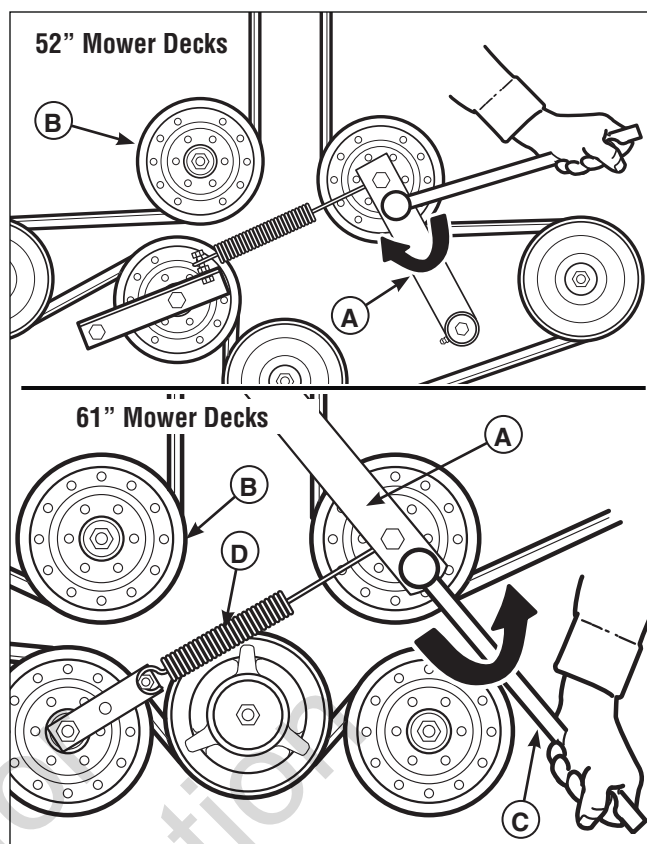
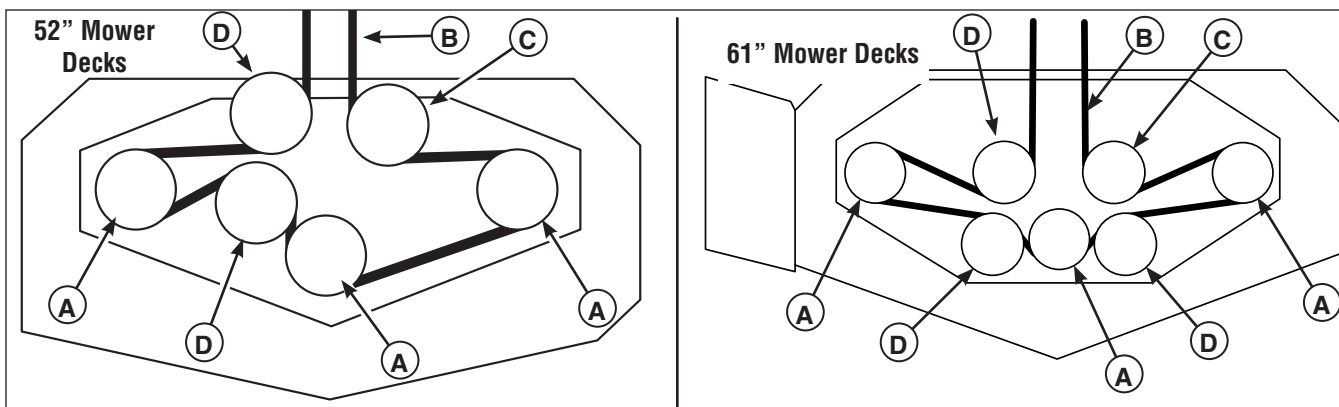

Figure 50. Mower PTO Belt
Figure 51. Mower PTO Belt Routing
3. Using a 1/2" breaker bar, place the square end in the square hole located in the end of the idler arm (A, Figure 50).
4. Slide the drive belt over the edge of the stationary idler pulley (B). Carefully release the tension on the breaker bar.
5. Remove the old belt and replace with a new one. Make sure the V-side of the belt runs in the pulley grooves (Figure 51).
6. Install the drive belt on the PTO pulley, the spindle pulleys and all idler pulleys except the stationary pulley (B, Figure 51).
- **52" Mower Decks:** Carefully rotate the breaker bar **clockwise** and install the belt on the stationary idler pulley (B). Carefully release the tension on the breaker bar.
- **61" Mower Decks:** Carefully rotate the breaker bar **counter-clockwise** and install the belt on the stationary idler pulley (B). Carefully release the tension on the breaker bar.